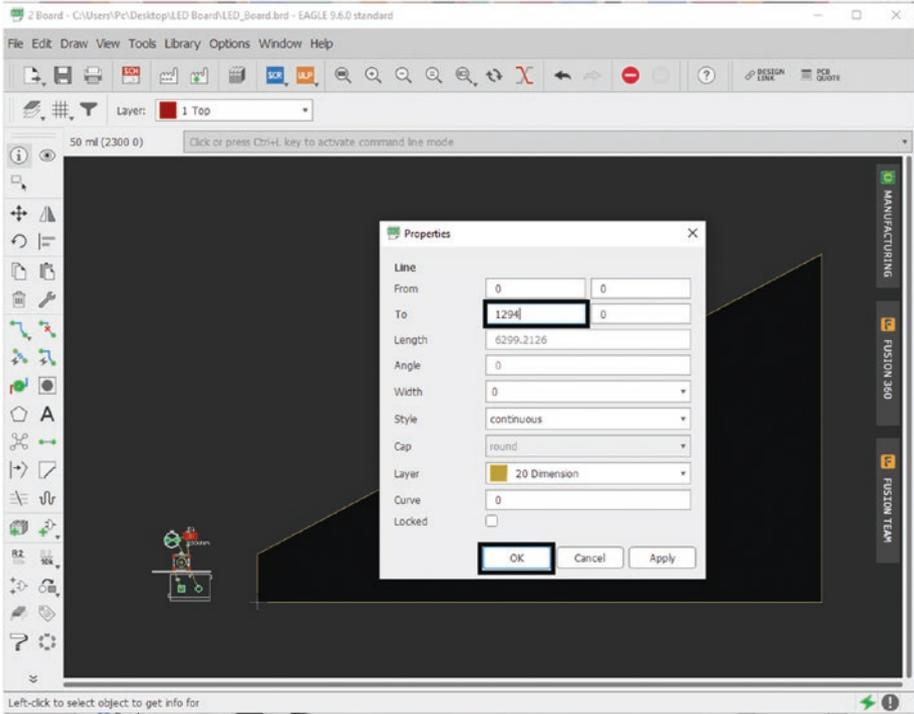

Figure 5-58. Update horizontal line value
7. Type 1294 into the box right next to the “to” and click “OK.” See Figure 5-58.